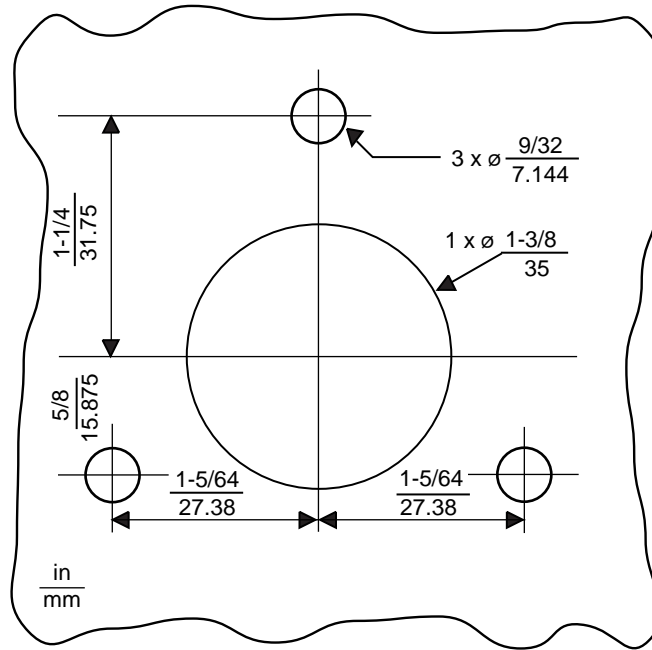

Figure 3 Door Drilling Template (full scale)
1. Dab some grease on shaft tip and gently close door until contact is made between the door and shaft tip. The grease marks the center for the 1-3/8" diameter handle mounting hole (see Figure 3 on page 4).
3. Cut out drilling template (Figure 3).